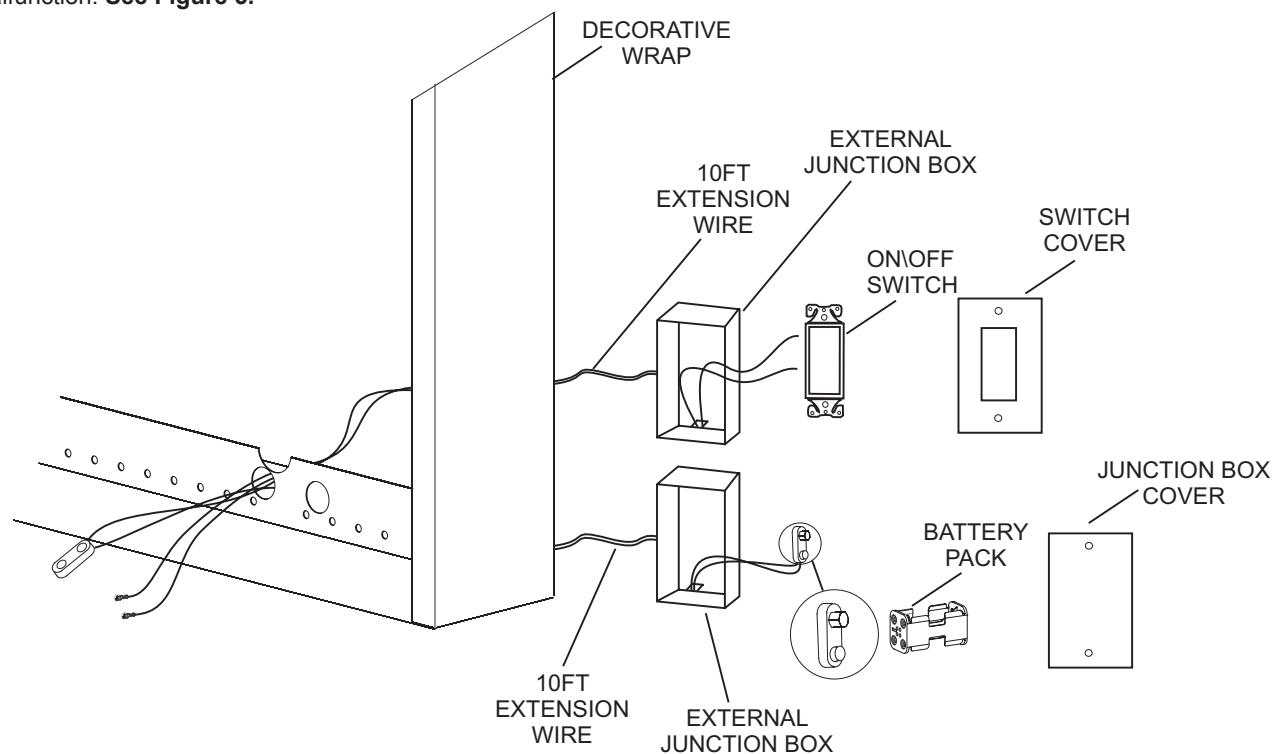

Figure 5
8. Run extension wire harness(es) from opening to junction box(es) (not provided) outside of the fireplace. One junction box is for the switch (or other control). The other junction box is for the battery pack and will require a cover. Extension wires are 10-ft in length and must connect to battery pack using the connector end with side walls. Do not extend wires beyond the 10 feet provided as this will cause the controls to malfunction. **See Figure 5.**